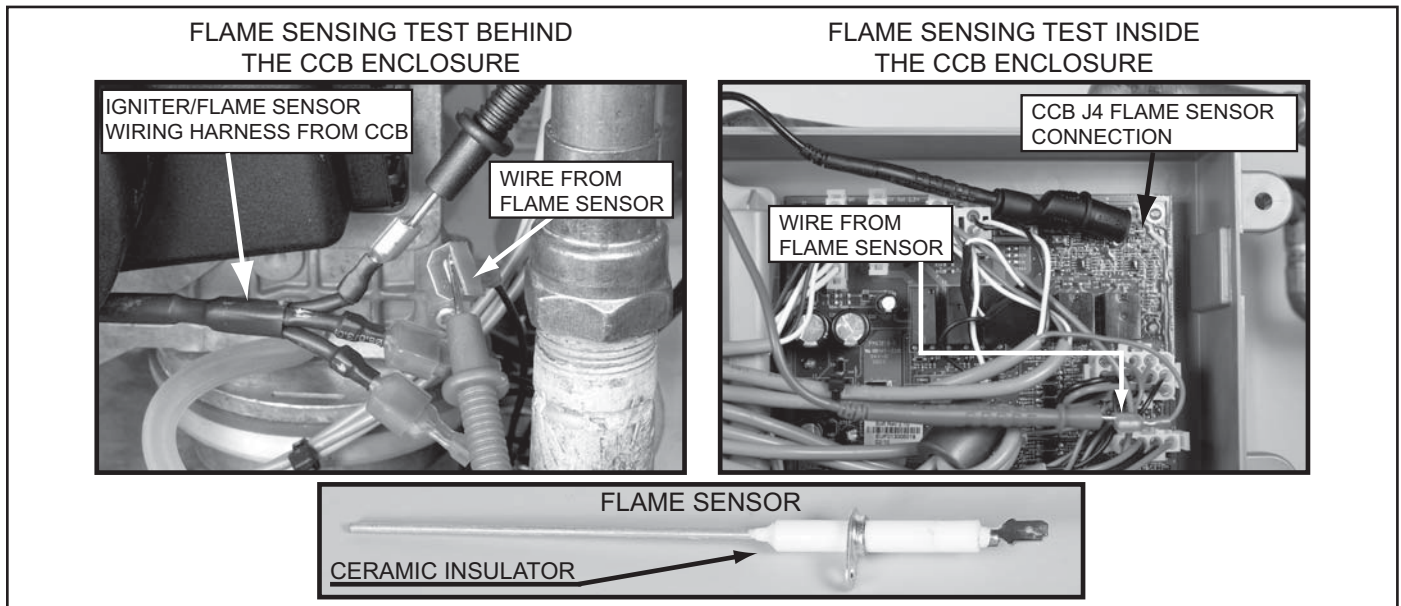

Figure 19
8. Inspect the Flame Sensor and its ceramic insulator for cracks and wear. Replace the Flame Sensor if it shows any sign of damage or excessive wear, see Figure 19 on page 19.
Measuring flame sensing current requires a test meter with a DC micro amp function, see Tools Required on page 2. The meter's selector is set to DC micro amps. The two test leads from the meter are placed in series with the flame sensing circuit. This can be done at the spade (male/female) wiring connectors behind the CCB enclosure or at the J4 spade connection on the CCB circuit board. See Figure 19 below and the CCB Circuit Board Layout on page 41.
To measure flame sensing current turn off power to the water heater and connect the test meter following one of the two methods shown in Figure 19. Restore power and ensure a call for heat is active - when the Control System energizes the 24 Volt Gas Valve the meter will measure flame sensing current during normal operation.